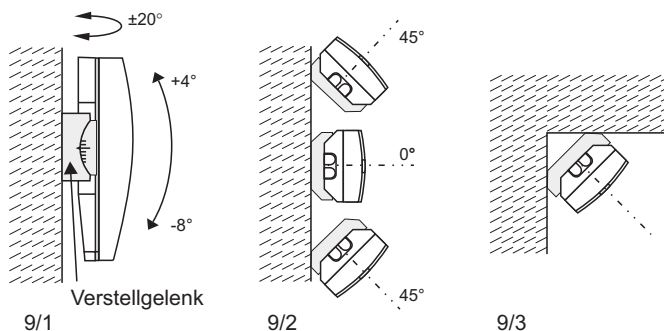

Fig. 9
- Mounting directly on the wall (Fig. 9/1)
- Horizontal at a 45° angle to the left or right (Fig. 9/2)
- Corner mounting (Fig. 9/3)